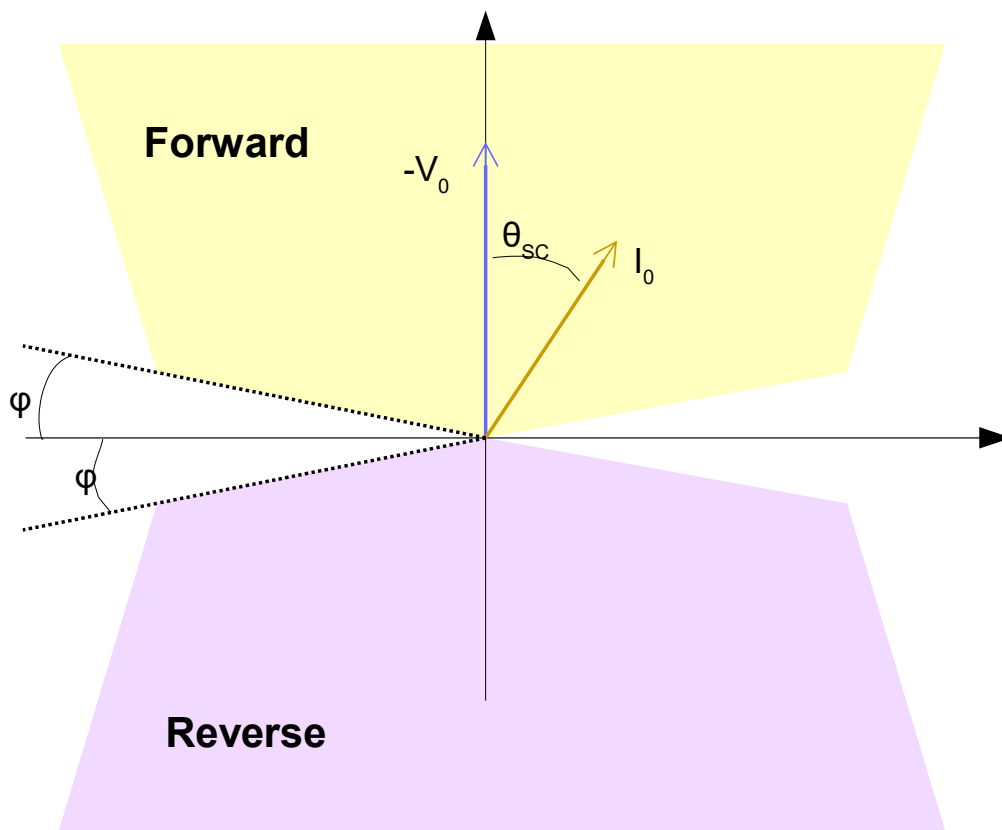

Figure 31: Illustration of the directional determination.
Direction The direction of the earth fault is defined as the direction of the fault current (This is not necessary the same direction as the energy flow). It is assumed that the zero sequence current equals the fault current. The direction determination is based on the angle between the zero sequence voltage and current, including an operational security margin. If the angular difference is more than 90° plus the security operational margin, the fault is in reverse direction. The directional pick-up operation can be described by the following, where Θ is the angular difference and ϕ is the operational security margin. Note that the zero sequence voltage is turned by 180° by including the minus sign, this is due to the trigonometrical properties, where the zero sequence voltage is in phase opposition with the faulty phase voltage. This directional determination is described by (3) - (6) and by Fig. 31.